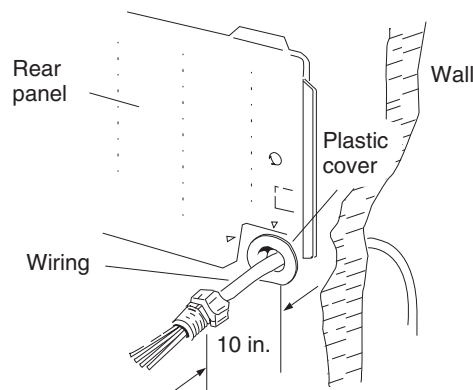

Fig. 1-43
- (1) Insert the inter-unit wiring (according to local electrical codes) into the through-the-wall PVC pipe. Run the wiring toward the indoor side allowing approx. 10 inches to extend from the wall face. (Fig. 1-43)